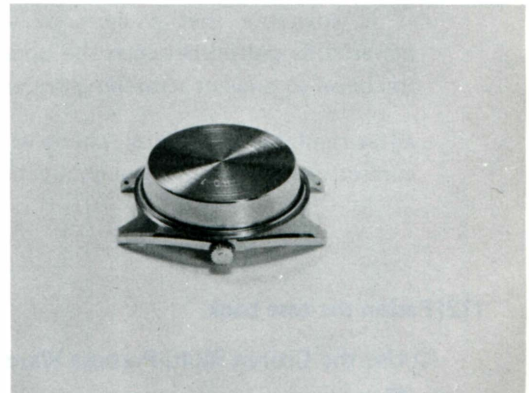

Fig. 5
- a. Set the auxiliary piece of the appropriate O-Ring Setter on the top of the crystal glass (Fig. 5).